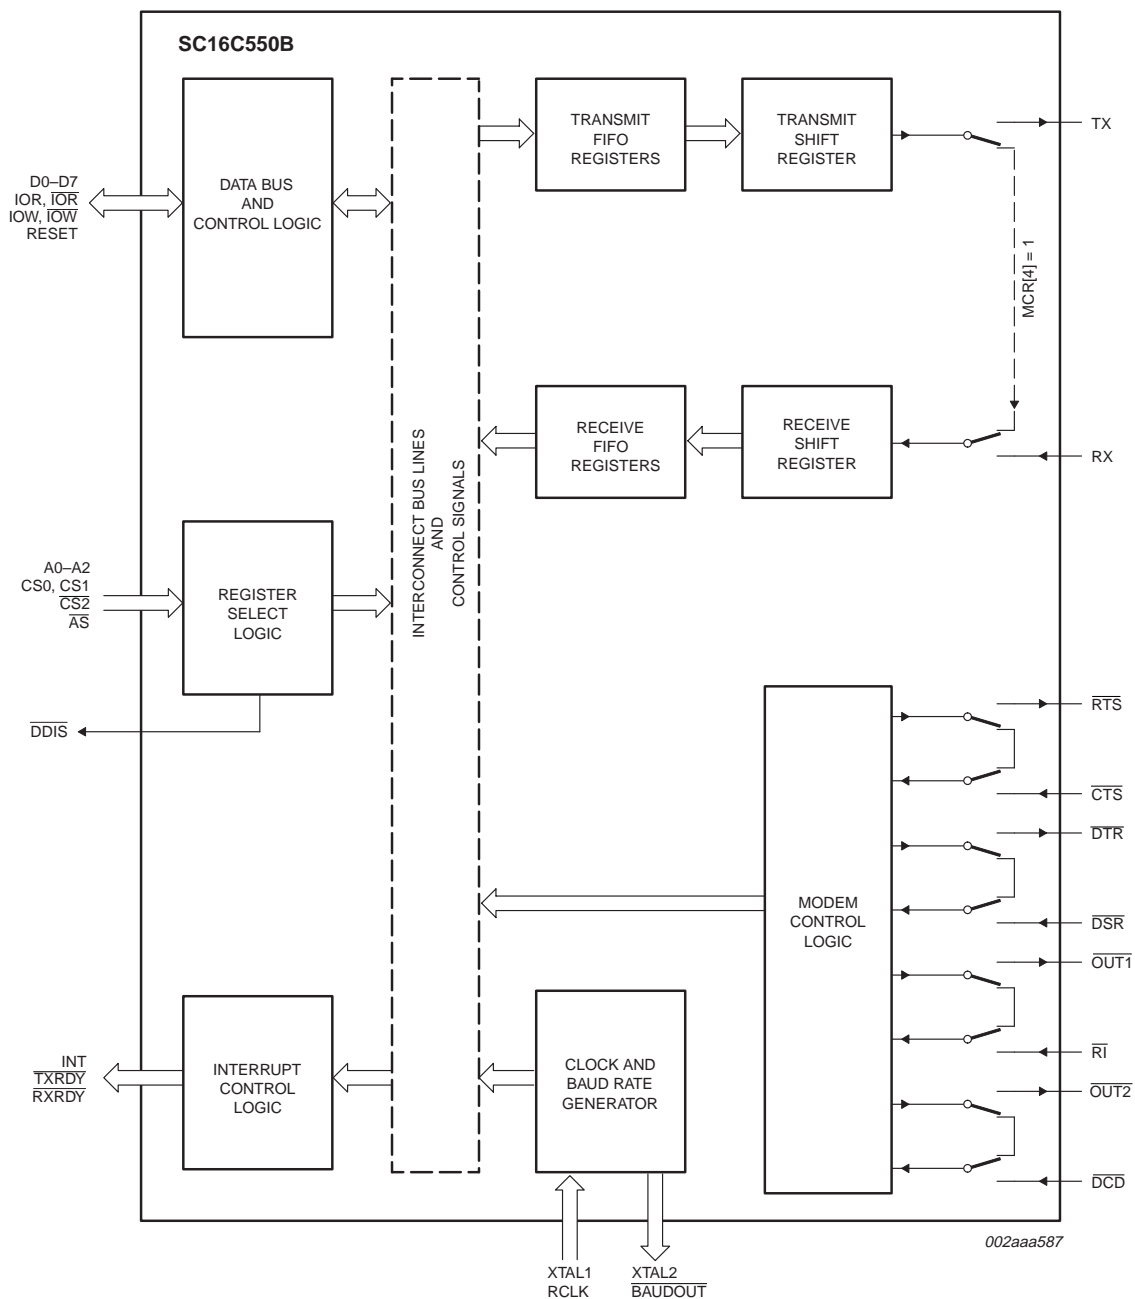

Fig 10. Internal loop-back mode diagram.
The internal loop-back capability allows on-board diagnostics. In the loop-back mode, the normal modem interface pins are disconnected and reconfigured for loop-back internally. MCR[0:3] register bits are used for controlling loop-back diagnostic testing. In the loop-back mode, OUT1 and OUT2 in the MCR register (bits 3-2) control the modem $\overline{\text{RI}}$ and $\overline{\text{DCD}}$ inputs, respectively. MCR signals $\overline{\text{DTR}}$ and $\overline{\text{RTS}}$ (bits 0-1) are used to control the modem $\overline{\text{CTS}}$ and $\overline{\text{DSR}}$ inputs, respectively. The transmitter output (TX) and the receiver input (RX) are disconnected from their associated interface pins, and instead are connected together internally (see Figure 10). The $\overline{\text{CTS}}$, $\overline{\text{DSR}}$, $\overline{\text{DCD}}$, and $\overline{\text{RI}}$ are disconnected from their normal modem control input pins, and instead are connected internally to $\overline{\text{DTR}}$, $\overline{\text{RTS}}$, $\overline{\text{OUT1}}$ and $\overline{\text{OUT2}}$. Loop-back test data is entered into the transmit holding register via the user data bus interface, D0-D7. The transmit UART serializes the data and passes the serial data to the receive UART via the internal loop-back connection. The receive UART converts the serial data back into parallel data that is then made available at the user data interface D0-D7. The user optionally compares the received data to the initial transmitted data for verifying error-free operation of the UART TX/RX circuits.